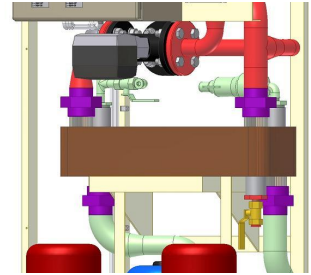

Figure 4.2-2
1. Drain both the primary circuit and the secondary circuit. The secondary circuit is drained through the V163 valve (marked yellow in Figure 4.2-2). The primary circuit is drained through the valves V301 and V302 (refer to the P&ID in Figure 2.2-2).
Disconnect the primary and secondary circuit connections (marked violet in Figure 4.2-2) from the unit. The connections can be opened with a box wrench.